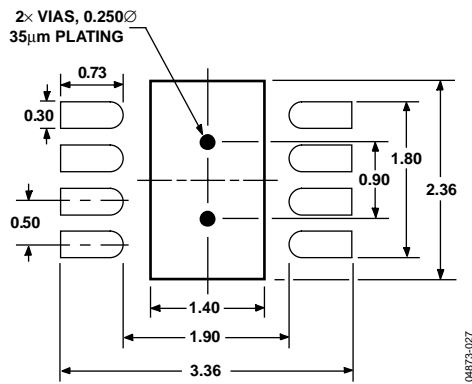

Figure 27. 3 mm × 3 mm LFCSP Pad Pattern (Dimensions in millimeters)
- The pad pattern is shown in Figure 27. Follow the pad dimension closely for reliable solder joints, while maintaining reasonable clearances to prevent solder bridging.